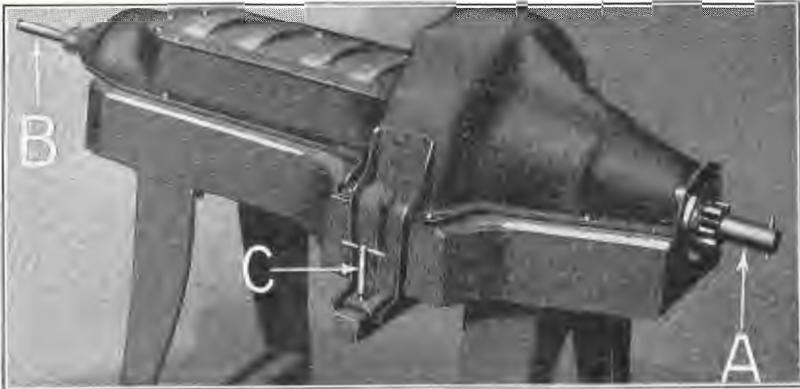

Fig. 212
- 327** Check crankcase for alignment by placing it on an aligning jig (See Fig. 212). The case should rest evenly on the fixture when